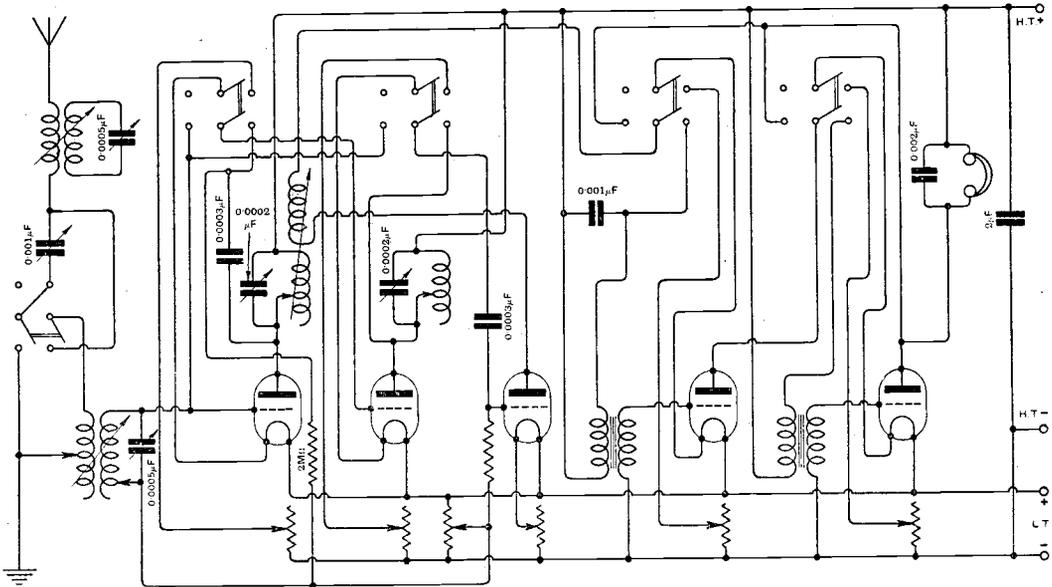

Fig. 4. "C.P.E." (Birmingham). A five-valve receiver, two H.F. tuned anode, detector and two L.F. valves with switches.
(1) The diagram is given in Fig. 4. (2) With a good outdoor aerial, the receiver should fulfil the required conditions. (3) It is difficult to say definitely the degree of selectivity obtainable with a particular receiver, as results vary considerably. The tuning arrangements shown in the diagram are very suitable for your particular circumstances.
**NOTE.**—This section of the magazine is placed at the disposal of all readers who wish to receive advice and information on matters pertaining to both the technical and non-technical sides of wireless work. Readers should comply with the following rules:—(1) Each question should be numbered and written on a separate sheet on one side of the paper, and addressed "Questions and Answers," Editor, *The Wireless World and Radio Review*, 12/13, Henrietta Street, London, W.C.2. Queries should be clear and concise. (2) Before sending in their questions readers are advised to search recent numbers to see whether the same queries have not been dealt with before. (3) All questions will be answered through the post. Those of general interest will also be published. (4) Every question, except those under (5) below, should be accompanied by a postal order for 1s., or 3s. 6d. for a maximum of four questions, and also the coupon taken from the advertisement pages of the current issue. (5) For the benefit of those readers who would rather not pay the charges, a free Questions and Answers Coupon will be placed in the advertisement pages of the first issue of every month. This coupon should accompany the question submitted, together with a stamped addressed envelope. The free coupon is valid for the current week only. (6) In view of the fact that a large proportion of the circuits and apparatus described in these answers are covered by patents, readers are advised, before making use of them, to satisfy themselves that they would not be infringing patents. (7) Four questions is the maximum which may be sent in at one time.